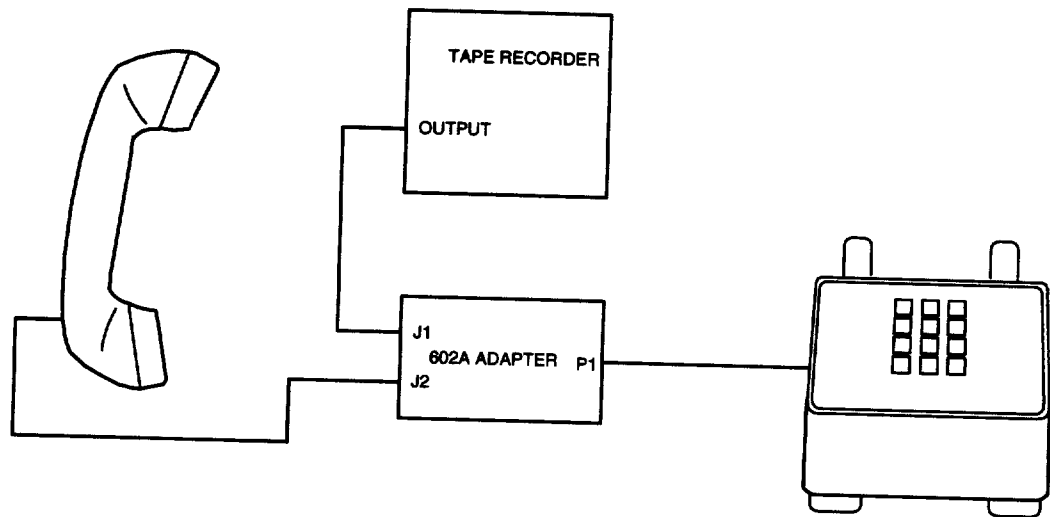

Figure 2. 602A Telephone Tape Recorder Adapter (Tape Dubbing of Announcement Remotely) J1C259A-1 List 5
- 2.04** As with the ALD3, recordings can be dubbed through the ALD4 using the 602A Telephone Tape Recorder Adapter (J1C259A-1 List 5). Refer to Figure 2.